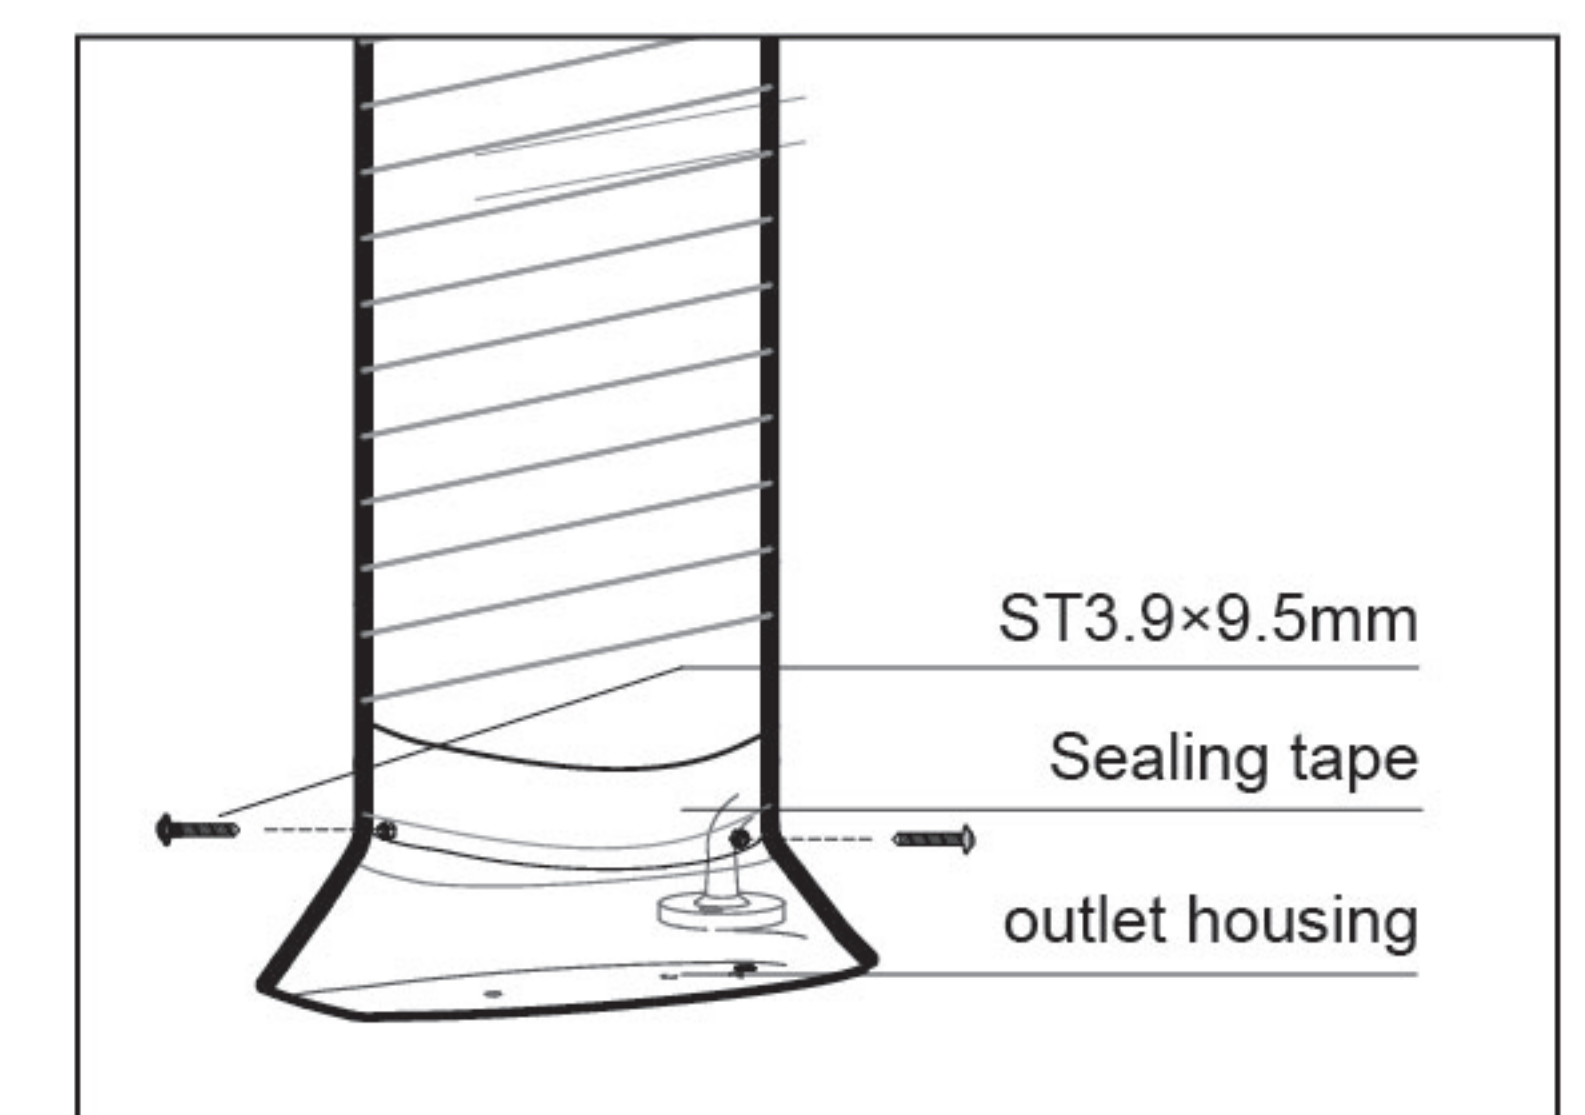

fig14
7. Connect the exhaust duct: cut off the redundant exhaust duct or connect the smoke tube according to the actual distance, put the smoke tube into the outlet housing connecting rings, then pre-fix the exhaust dust with two screws (ST3.9 \times 9.5), and finally wrap it with Sealing tape for fixation and sealing; (fig14)